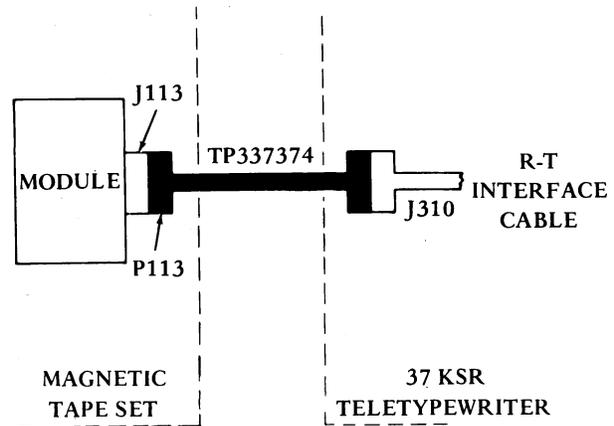

Figure 12 - Magnetic Tape Set Interfaced to 37 KSR to Provide ASR Operation
3.46 This interconnection is achieved through the R-T connector of the teletypewriter unit, as shown in Figure 12. The procedure is as follows: